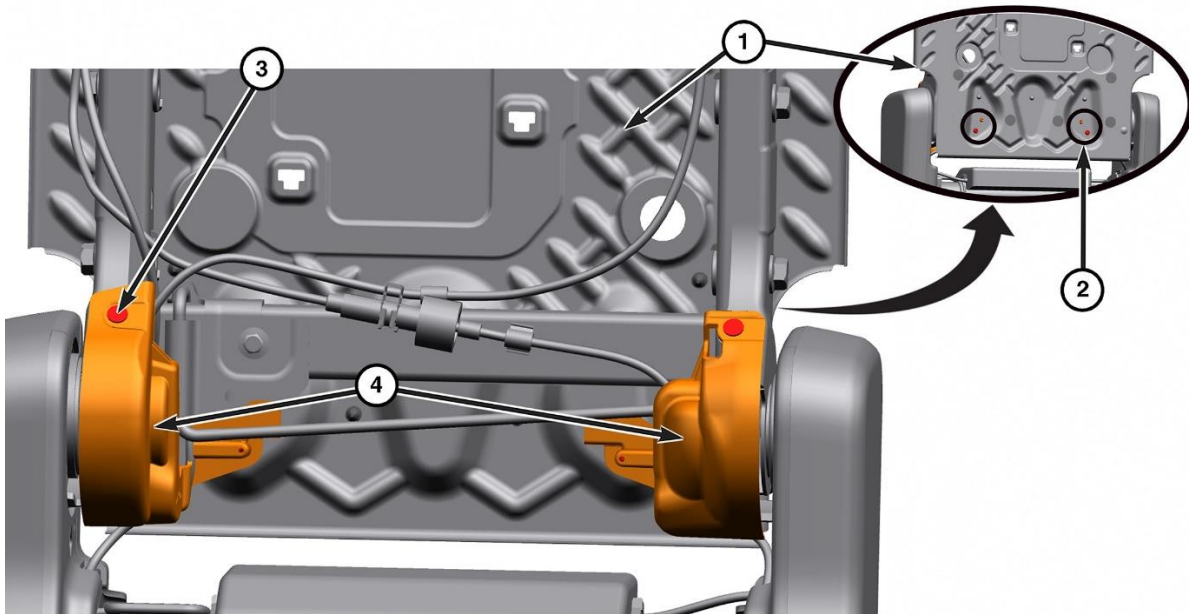

Figure 82 – Hinge Covers
25. Remove the push pins (3) and screws (2) then remove the hinge covers (4) (Figure 82).
52. Position the hinge covers (4) then install the push pins (3) and screws (2) (Figure 82).